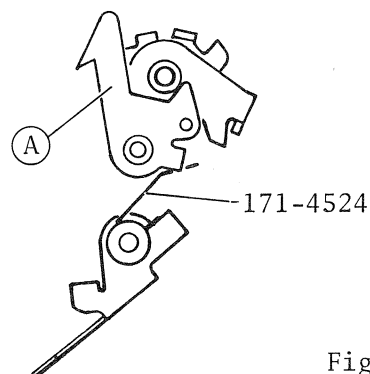

Fig. 8
a) Remove 791-1010 latch as shown in Fig. 8.